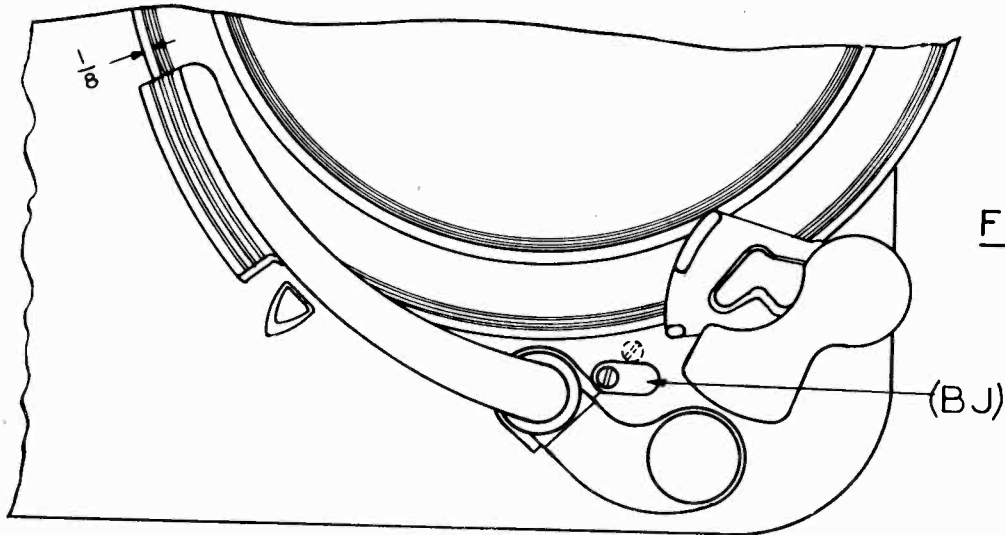

FIG. 1
The position at which needle lowers to record can be adjusted by inserting screw driver through hole (BJ) just in back of tone arm (shown in Fig. 1). For adjusting the 10" setdown, insert screw driver into the inside eccentric adjusting stud. For adjusting the